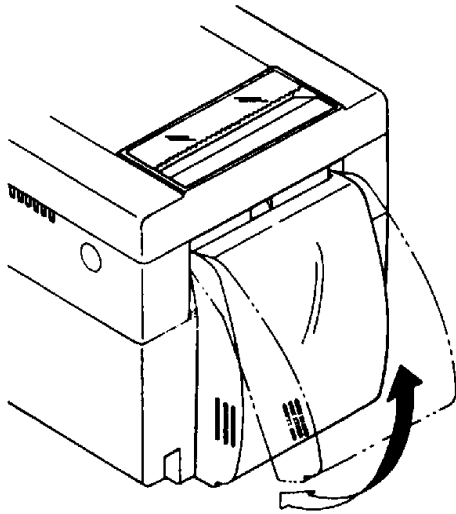

Fig. 9
1) Inserting and removing the paper cover and the stacker as shown in Fig. 9, 10.